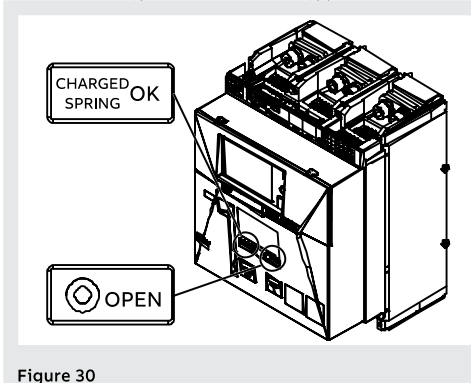

Figure 30
3. Make sure that the circuit-breaker is open. The "O - OPEN" opening/closing indicator must be activated. Check that the springs are charged. The spring indicator must indicate "CHARGED SPRING - yellow colour", as illustrated in Figure 30.